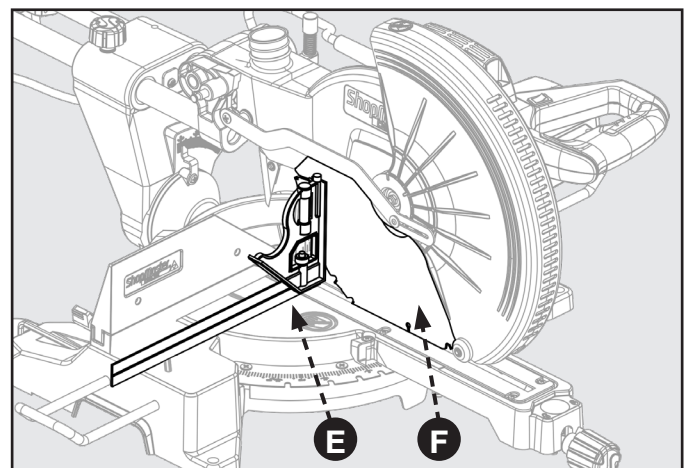

FIGURE 12
Refer to Figure 12.
7. Place a combination square (E) against the table and the face of the saw blade (F).
9. The edge of the square and the saw blade should be parallel as shown in Figure 12.